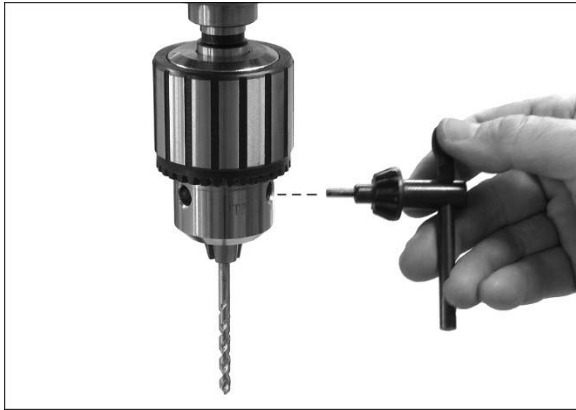

Figure 18
3. Turn chuck key clockwise to tighten chuck jaws. See Figure 18. NOTE: Insert chuck key into each of the three holes in the chuck and tighten to ensure tightness of each jaw.